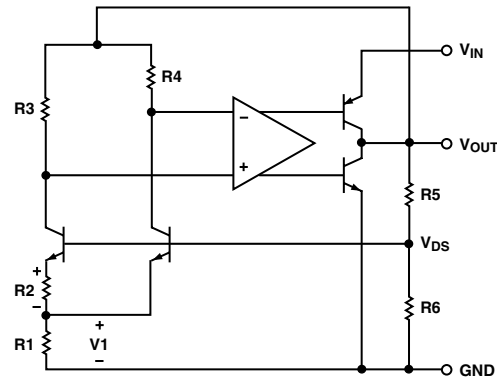

Figure 1. Simplified Schematic
The ADR370 uses the band gap concept to produce a stable, low temperature coefficient voltage reference suitable for high accuracy data acquisition components and systems. This device makes use of underlying temperature characteristics of a silicon transistor's base-emitter voltage (V_{BE}) in the forward biased operating region. Under this condition, all such transistors have a $-2 \text{ mV}/^\circ\text{C}$ temperature coefficient (TC) and a V_{BE} that, when extrapolated to absolute zero, 0 K, (with collector current proportional to absolute temperature) approximates the silicon band-gap voltage. By summing a voltage that has an equal and opposite temperature coefficient of $2 \text{ mV}/^\circ\text{C}$ with a V_{BE} of a forward biased transistor, an almost zero TC reference can be developed. The simplified circuit diagram in Figure 1 shows how a compensating voltage, V_1 , is achieved by driving two transistors at different current densities and amplifying the resultant V_{BE} difference (ΔV_{BE} , which has a positive TC). The sum (V_{BG}) of V_{BE} and V_1 is then buffered and amplified to produce a stable reference voltage of 2.048 V at the output.